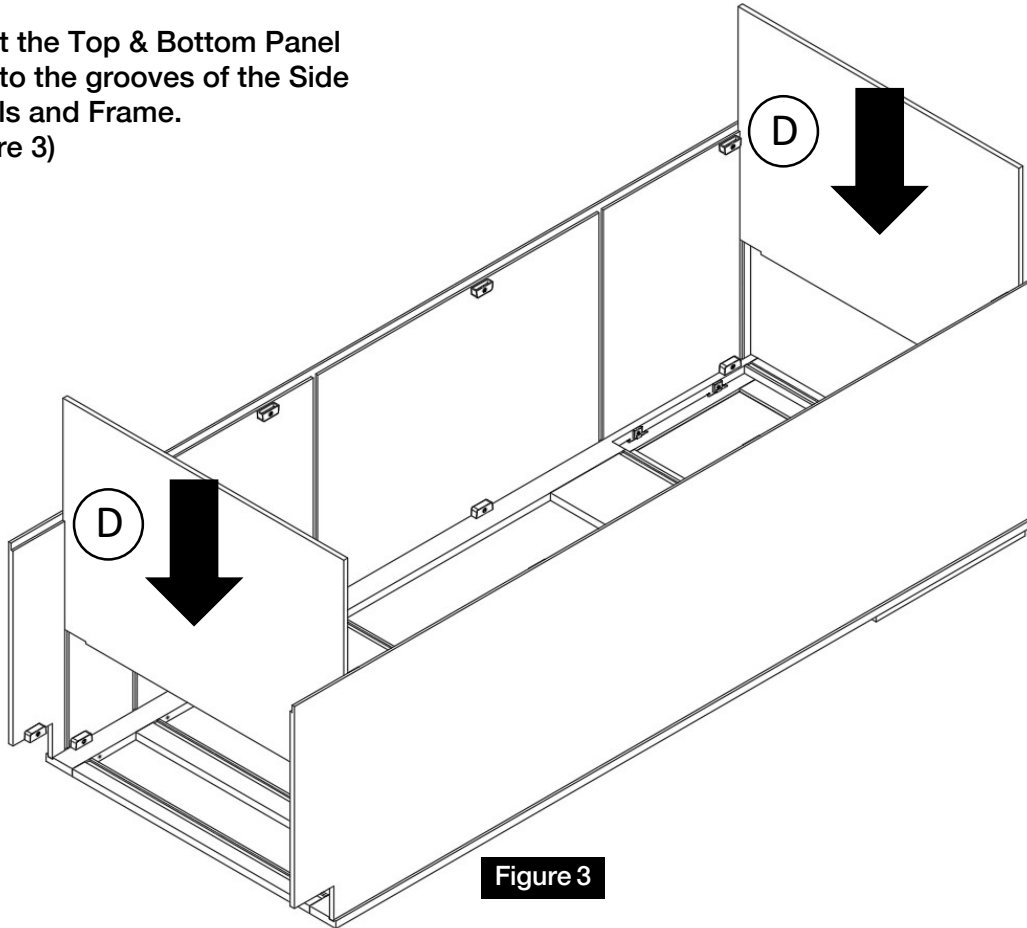

Figure 3
Insert the Top & Bottom Panel (D) into the grooves of the Side Panels and Frame. (Figure 3)